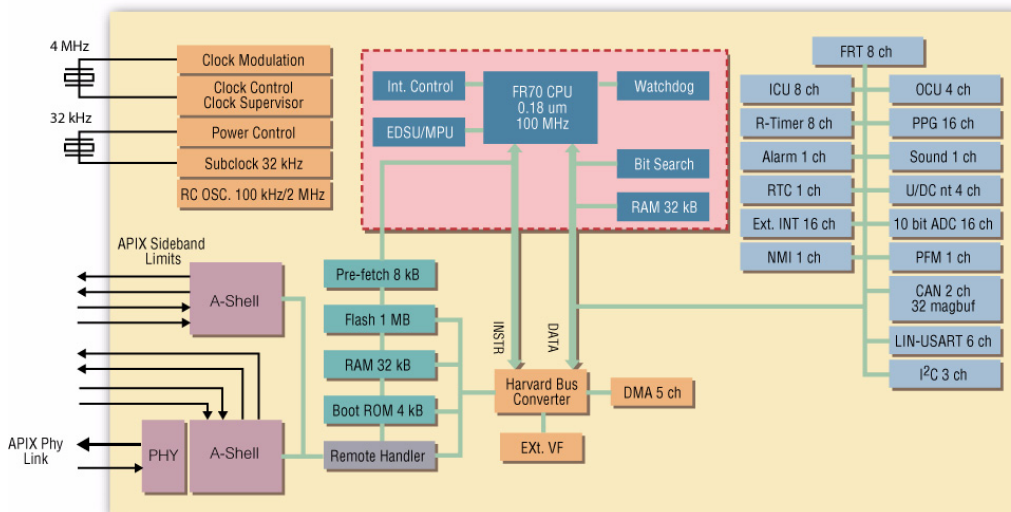

Figure 3 — MB91F467S Block Diagram
The MB91F467S is a 32-bit Fujitsu RISC (FR) microcontroller (MCU) with embedded APIX as illustrated in Figure 3. This GDC does not drive graphics over APIX to the remote node, but otherwise has all the other capabilities of APIX. Both the ARH and APIX automotive shell are implemented in hardware to maximize performance.